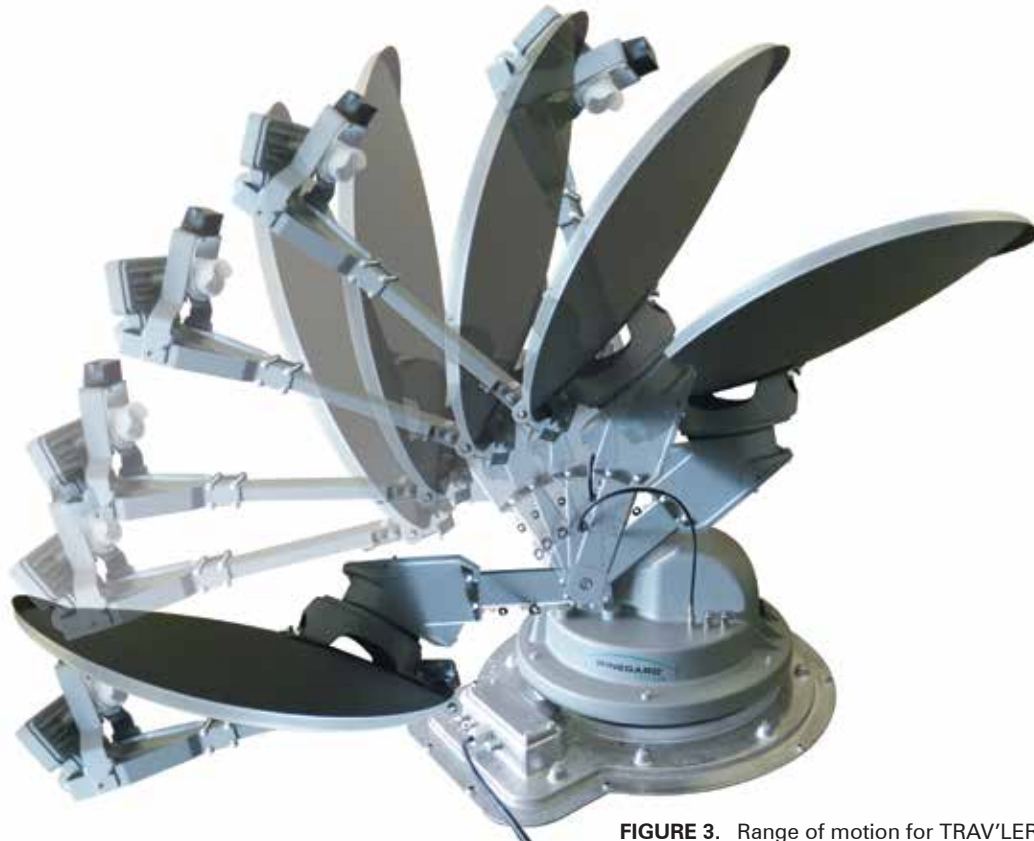

FIGURE 3. Range of motion for TRAV'LER SWM antenna
**Also, check that there are no obstructions (such as tree limbs) above the antenna that will prevent it from raising.** At its highest point, the antenna will extend to 37.5" above the roof to which it is mounted (see fig. 3).